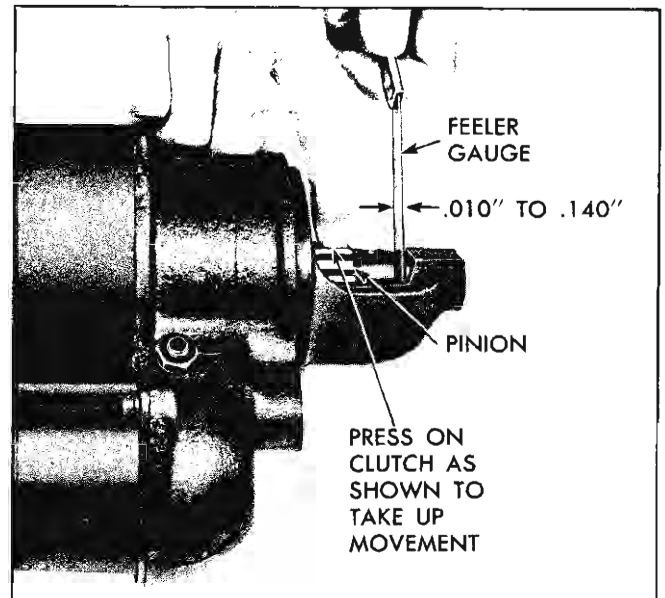

Fig. 11-13 Measuring Pinion Clearance
**NOTE:** Do not connect the voltage source to the ignition coil terminal "R" of the solenoid. Do not use a 12-volt battery instead of the 6 volts specified as this will cause the motor to operate. As a further precaution to prevent motoring, connect a heavy jumper lead from the solenoid motor terminal to ground. After energizing the solenoid with the clutch shifted towards the pinion stop retainer, push the pinion back toward the commutator end as far as possible to take up any slack movement, then check the clearance with a feeler gauge (Fig. 11-13).